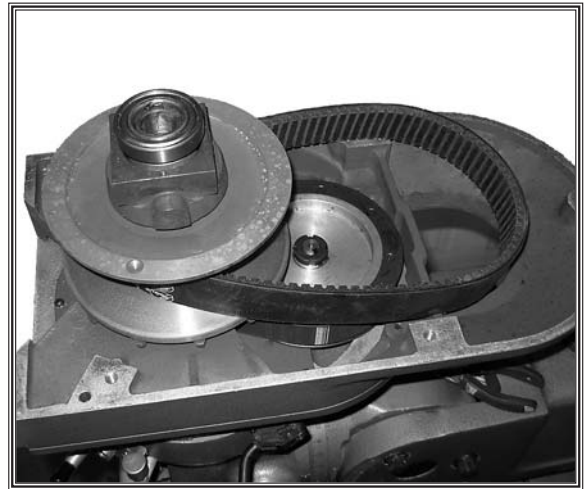

Figure 71. Variable speed belt removal.
17. Place the new variable speed belt around the pulley as shown in **Figure 71**.